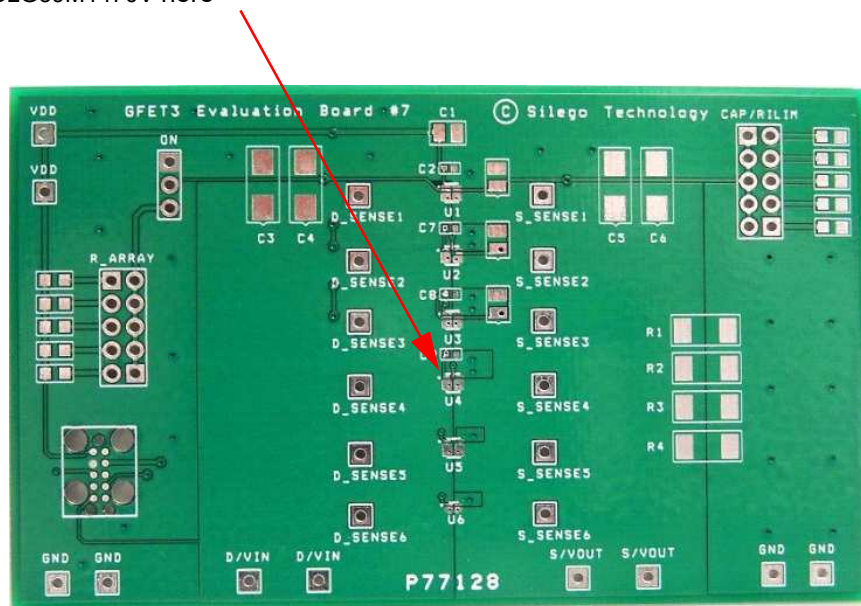

Figure 1. SLG59M1470V Evaluation Board
2. Since the D and S pins dissipate most of the heat generated during high-load current operation, it is highly recommended to make power traces as short, direct, and wide as possible. A good practice is to make power traces with absolute minimum widths of 15 mils (0.381 mm) per Ampere. A representative layout, shown in Figure 1, illustrates proper techniques for heat to transfer as efficiently as possible out of the device;
A GreenFET Evaluation Board for SLG59M1470V is designed according to the statements above and is illustrated on Figure 1. Please note that evaluation board has D\_Sense and S\_Sense pads. They cannot carry high currents and dedicated only for RDSON evaluation.